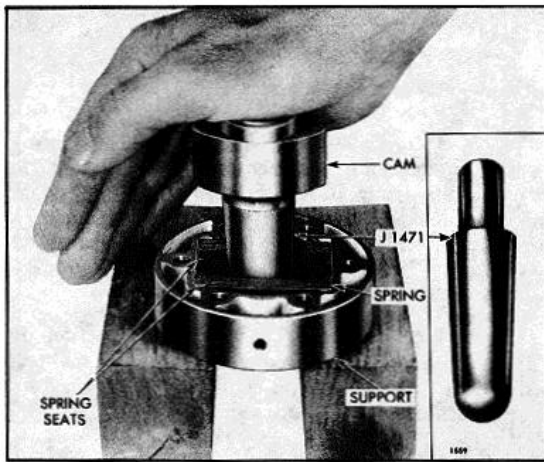

Fig. 6. Inserting Blower Drive Cam
1. Secure the blower drive gear support (61) in a vise with soft jaws.
2. Press the drive gear hub (54) into the drive gear (53).
4. Place the thrust washer (102) on the protruding bearing in the gear side of the support and insert the blower drive gear hub and gear assembly.
5. Locate the lock ball (55) in its place on the drive gear hub and slide the hub thrust washer (56) into position over the lock ball. The thrust washer must be installed with the tapered face toward the threads on the hub.
6. Install a new lock washer (58) and finger tighten the nut (57) on the hub. Install two bolts into the threaded holes in the drive gear hub. Place a suitable holding bar across the bolts to keep the hub from rotating and tighten the hub nut to 50-60 lb-ft torque. Bend the ears of the lock washer against the nut to lock the nut in place. Remove the two bolts.
- a. Place the drive coupling support (67) on wood blocks as shown in Fig. 6.
- b. Install the spring end seats (101) and place the spring seats (70) in each corner of the drive coupling support.
- d. Place the blower drive cam (68) on the installer J 1471, insert the round end of the tool between the spring packs (69) and press the cam into position. See Fig. 6.